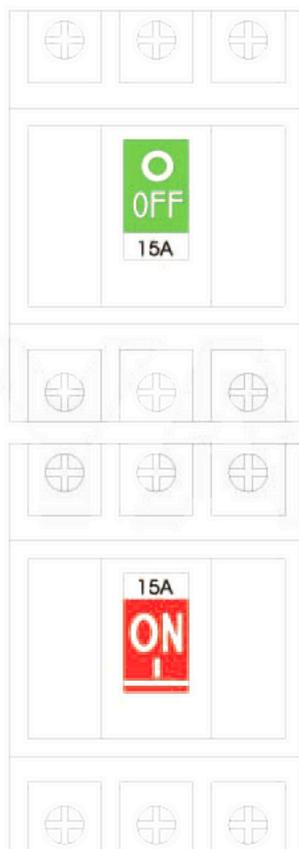

Fig.7a
3. There is a master power switch at the upper left corner in lower electrical panel. Input power requirement is 220V/3P. The switches on the control panel can function only if the master switch is turned ON and power is supplied. If it is OFF, no power would be supplied to the machine. (See **Fig.7a** for the switches)